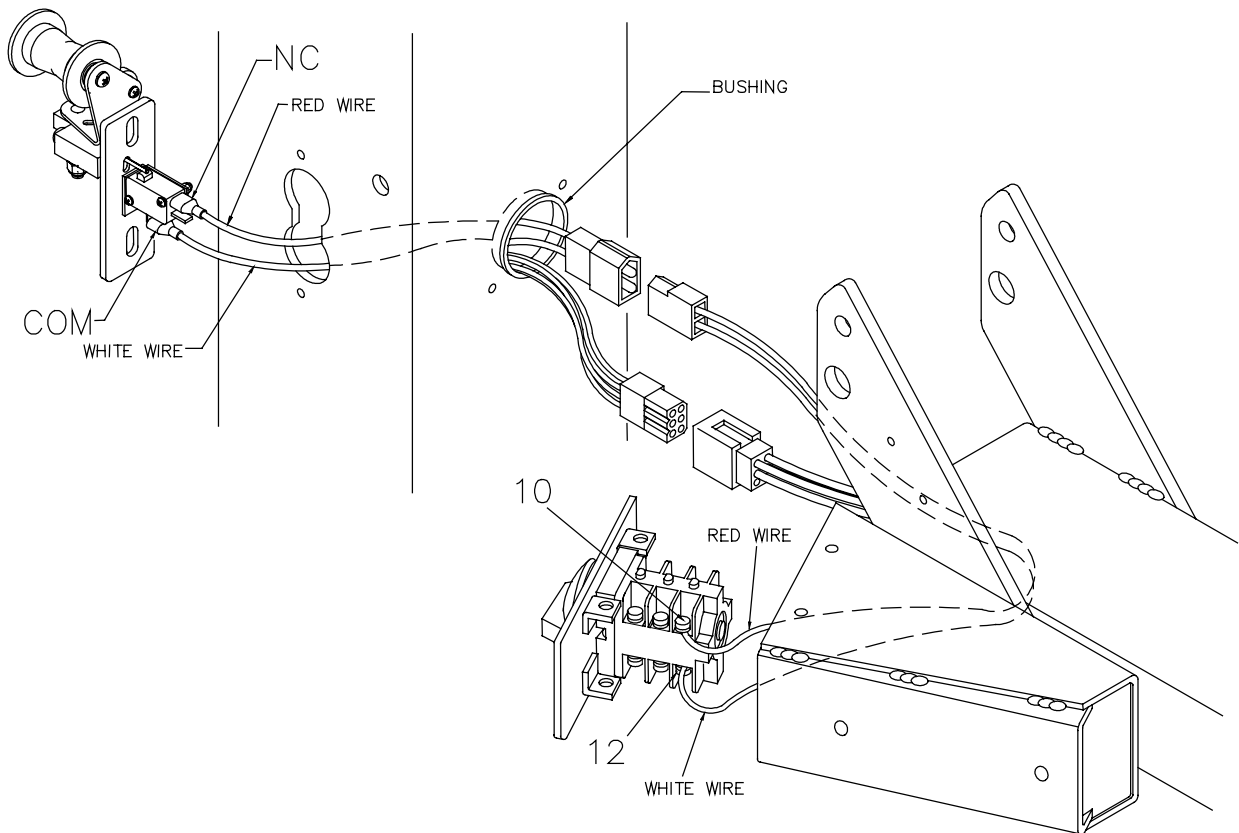

Figure 4
3. Separate the plug in the new Feed Castor Wire Harness. Route the stripped ends of the two new feed castor wires through the arm. Connect the red wire to terminal 10 and the white wire to terminal 12 of the Mode Selector Switch (see figure 4).
NOTE: If the platter system is a later version, a plug and bushing as shown in figure 4 is already installed.
6. Run the red and white wires of the remaining half of the new harness through the column as shown in figure 4. Connect the red wire to the NC contact of the feed castor switch, and the white wire to the COM contact of the feed castor switch. (See figures 4 & 5). Install the feed castor switch on the column.